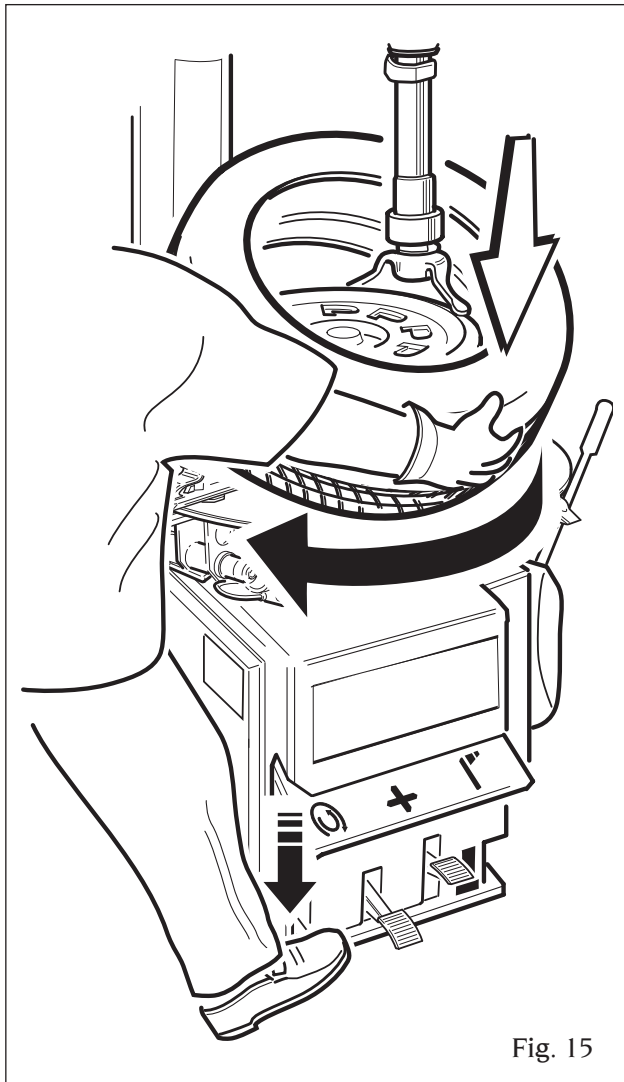

Fig. 15
- Place the tire on the rim and bring the swing arm into its operating position. Position the bottom bead (as shown in Figure 15) so that it is above the rear portion of the mount/demount head and below the front portion. Depress the table top pedal to begin clockwise rotation and thus mount the bead. Use the wheel's drop centre by pushing down on the sidewall opposite the head (as shown in Figure 15) to reduce tensional force on the bead as the wheel rotates.